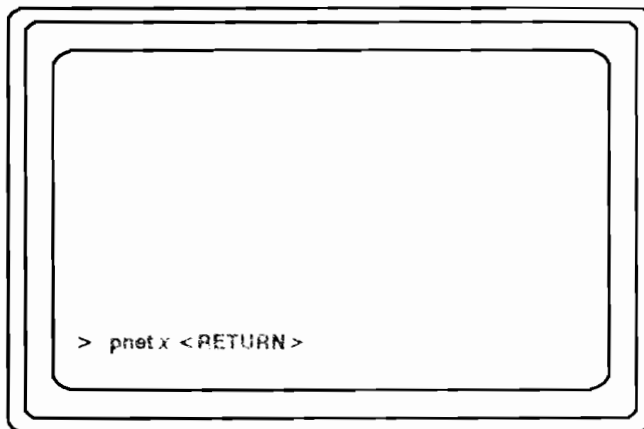

Figure 10-3. Selecting the Primary Network
3. Enter the **pnet** command as shown in Figure 10-3. Substitute one of the following values for *x* as follows: